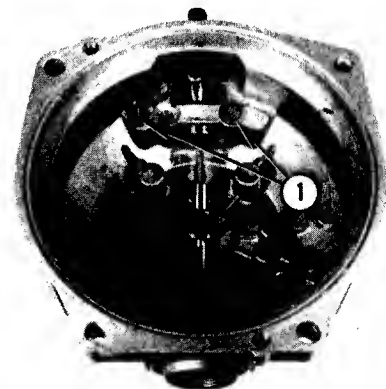

FIG. 4.50-CAM RING WEAR BUTTONS
21. With the pump cam ring now removed the inside of the aluminum body is now exposed, Fig. 4.50. Note that there are two buttons. No. 1, loose fitting in holes in the aluminum body. The buttons serve to prevent the cam ring from contacting the aluminum cover.